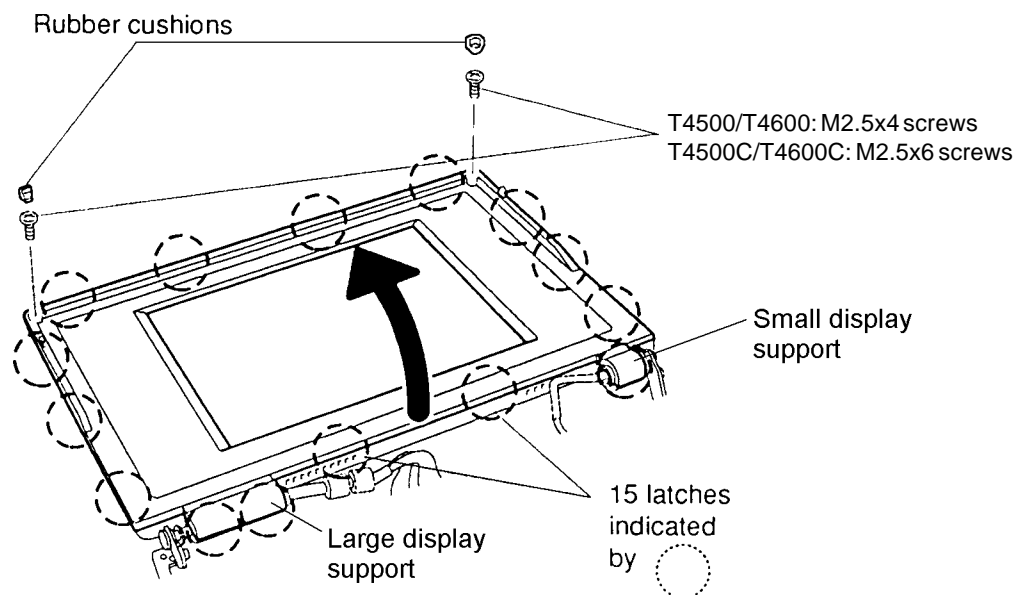

Figure 4-28 Removing the Display Mask
To remove the T4500/T4600 Family computer's display mask, follow the steps below and refer to Figure 4-28.
3. Remove **two rubber cushions** from the top corners of the display to expose **two screws** securing the **display mask** (Figure 4-28).
4. Remove the **two M2.5x4 screws** (T4500/T4600) or **two M2.5x6 screws** (T4500C/T4600C) that were covered by the cushions (Figure 4-28).
To install the computer's display mask, follow the steps below and refer to Figure 4-28.
3. Route the **cables** so they are not pinched by the **FL inverter board, display hinge** or other component (Figure 4-28).